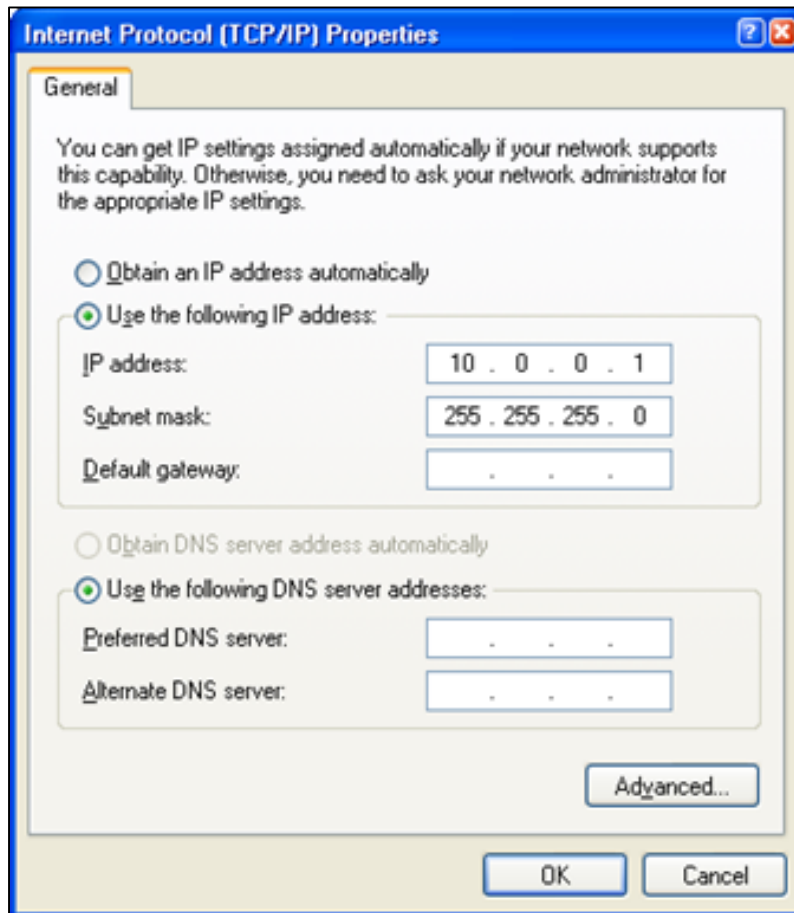

Figure C- 2: Enter in an IP address of the form 10.0.0.x where $x \geq 1$ and $x < 240$.
- This will bring up a window similar to that shown in **Figure C- 2**.